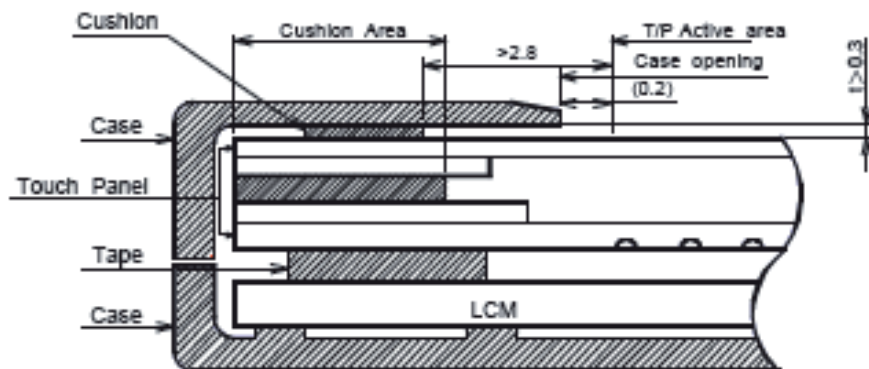

Fig. 13.1
1) Please refer to Fig. 13.1 for housing the display with touch panel into applications. The Fig. 13.1 shows some points as below:
1) The lot mark is showing in Fig.13.1. First 4 digits are used to represent production lot, T represented made in Taiwan, and the last 6 digits are the serial number.